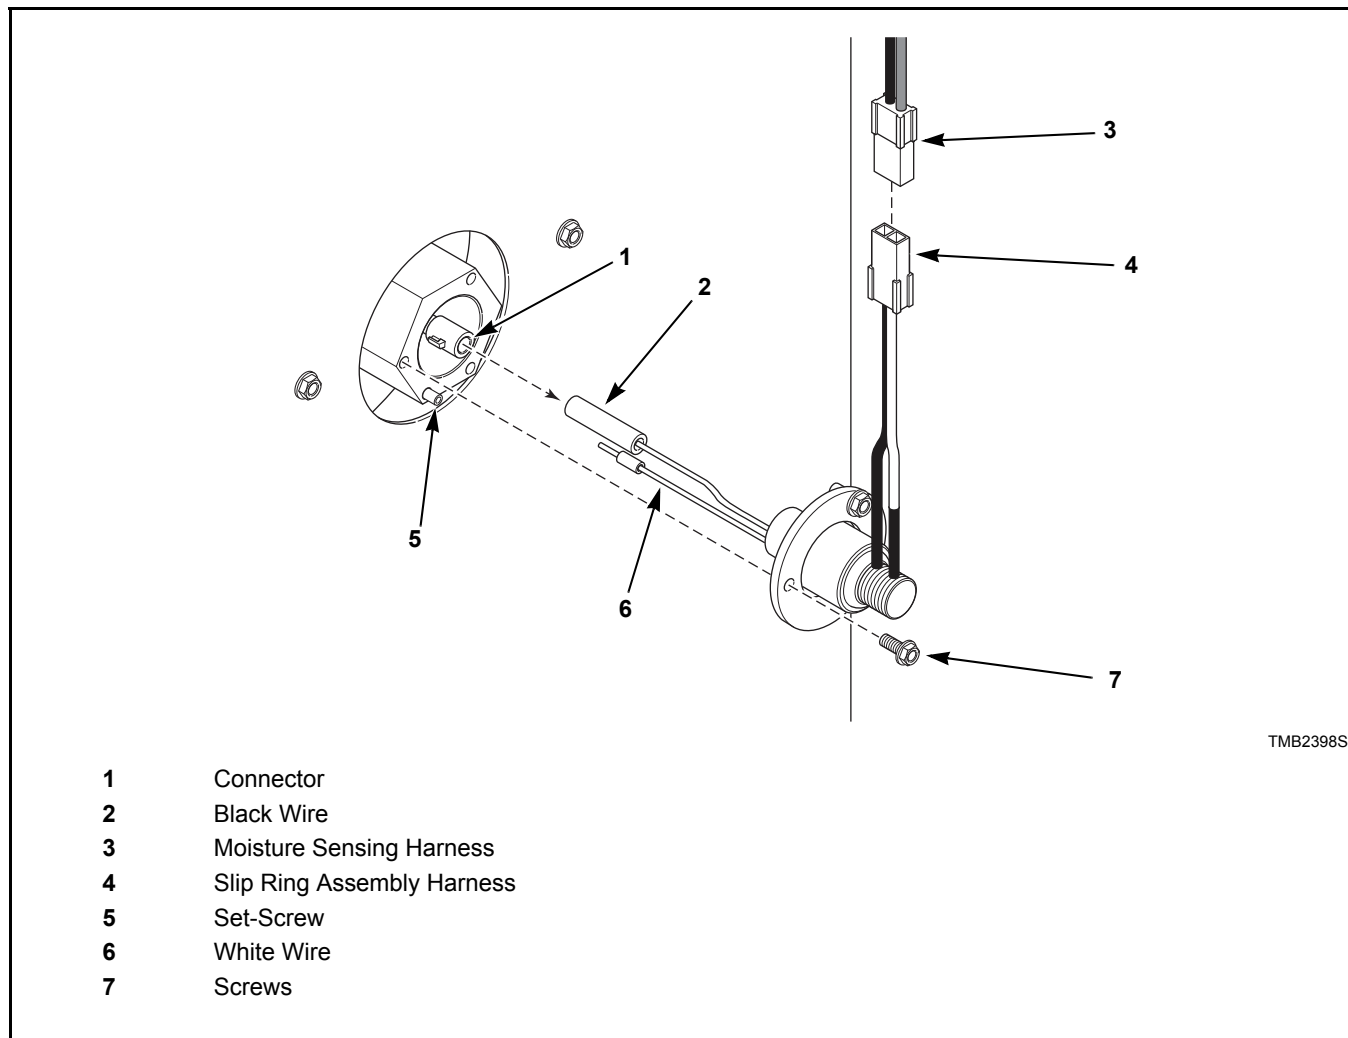

Figure 27
2. At the slip ring assembly, unplug the moisture sensing harness on the control side of the slip ring assembly (Refer to *Figure 27*).
5. Insert ohm meter probes into pins 1 and 2 of the harness unplugged from H5. If the metered value is infinite resistance, open load (OL), proceed to Step 6. If not, replace harness and return to *Paragraph 104*.
6. Create a direct short between pin 1 and 2 of the moisture sensing harness on the control side of the slip ring assembly (Refer to *Figure 27*). If the metered value is less than 1 ohm, proceed to *Paragraph 106*. If 1 ohm or greater, replace harness and return to *Paragraph 104*.
1. At the slip ring assembly, unplug the slip ring assembly harness on the control side of the slip ring assembly (Refer to *Figure 27*).
2. Remove the three (3) screws holding the slip ring assembly to basket shaft.